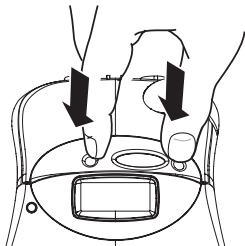

Figure 3
1. Press and release the label cassette cover to open the label compartment. See Figure 3.